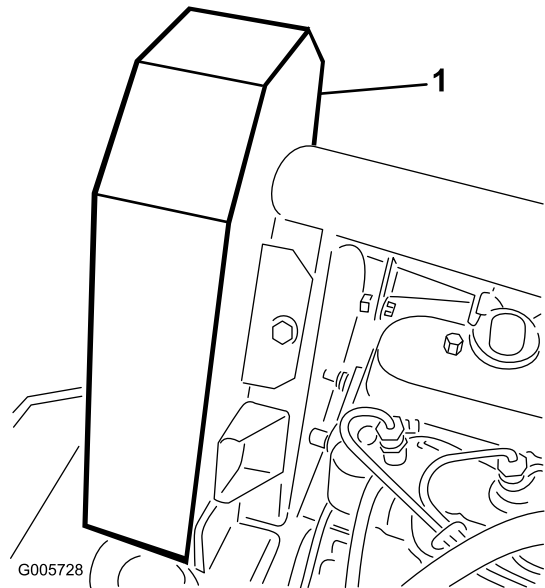

Figure 64
2. Remove capscrews (5) securing fan belt guard and remove guard (Figure 64).
5. Install fan belt guard and secure with capscrews (Figure 64). Close and latch hood.
4. Install fan belt guard and secure with capscrews (Figure 64). Close and latch hood.